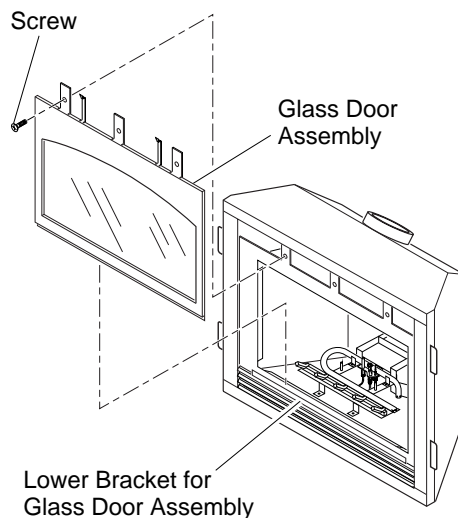

Figure 47 - Removing/Replacing Glass Door
3. Grasp door by both sides and ease it upward off of the lower bracket (see Figure 47).